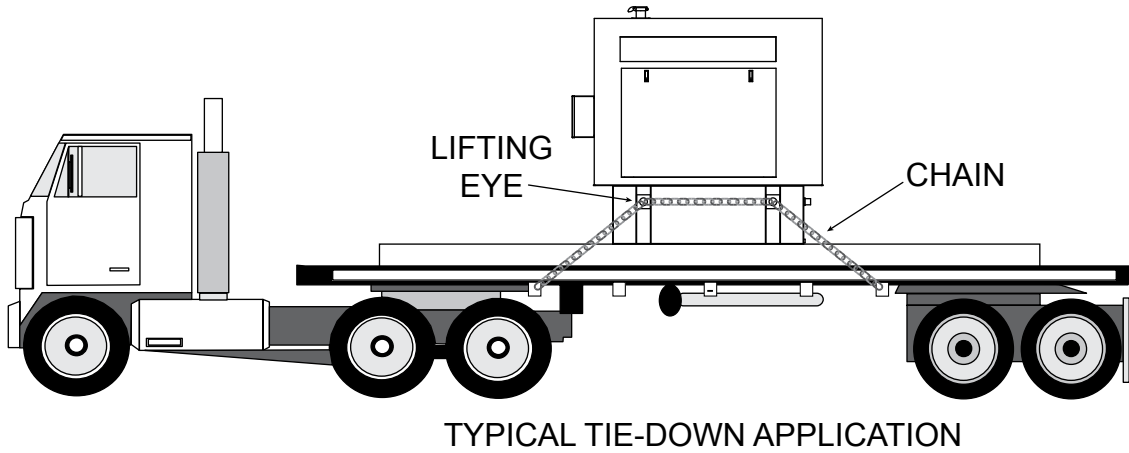

Figure 22. Transporting On A Flatbed Truck
2. Secure the generator with chains through the lifting eyes on the fuel tank. See Figure 22.